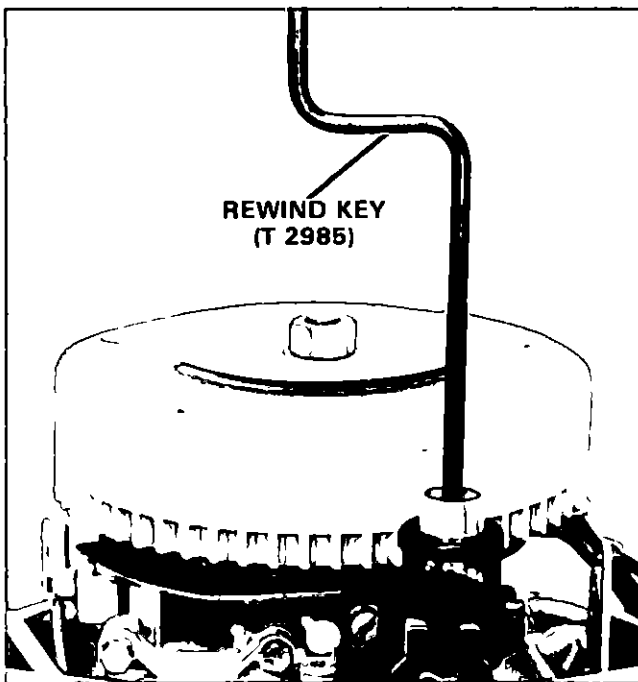

Figure 3. Installing Rewind Key.
- 3 Install rewind key in place of screw just removed Special Tool No T 2985 Figure 3 Hold pin and securely tighten rewind tool